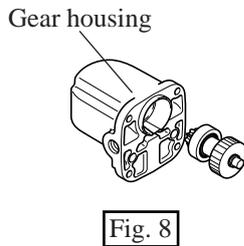

Fig. 8
- (7) Put the gear unit (spiral bevel gear 9, ball bearing 608LLB, sleeve 8 and helical gear 28) on 1R036 "Bearing setting plate". Press 1R280 "Round bar for arbor" put on the gear shaft, with arbor press. So spiral bevel gear 9 can be separated from helical gear 28. See Fig. 8.